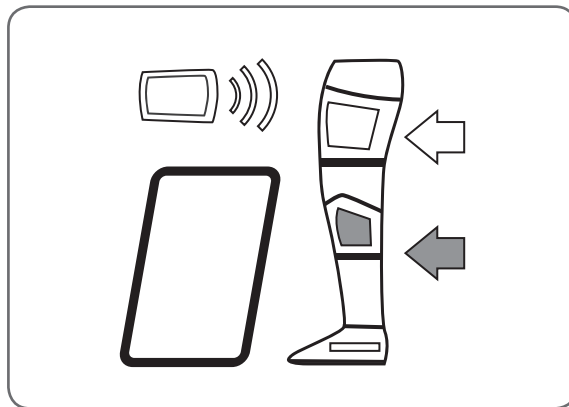

Figure 41: L300 RF Stim Unit selected.
1. Press the  "down" button to select the L300 RF Stim Unit. The L300 RF Stim Unit indicator and the arrow next to the L300 RF Stim Unit indicator will light GREEN to confirm the selection. See Figure 41.